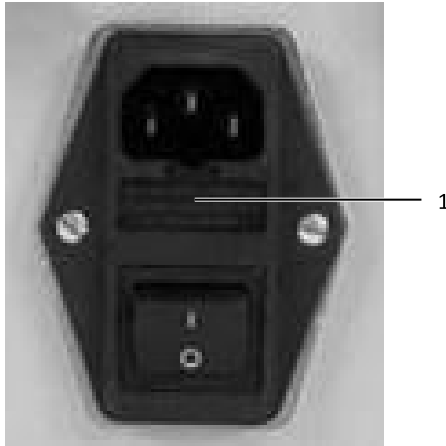

Fig. 27: Opening the fuse compartment
- Lever the fuse compartment (fig. 27, item 1) out of the mains filter unit using a slotted screwdriver.